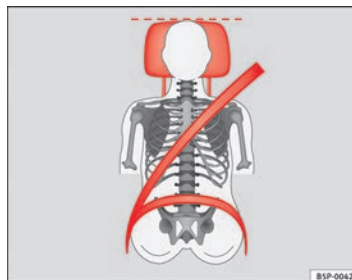

Fig. 13 Correct seat belt and head restraint positions, viewed from front
- The shoulder part of the seat belt must lie on the centre of the shoulder, never across the neck. The seat belt must lie flat and snugly on the torso ⇒ page 25, fig. 13.